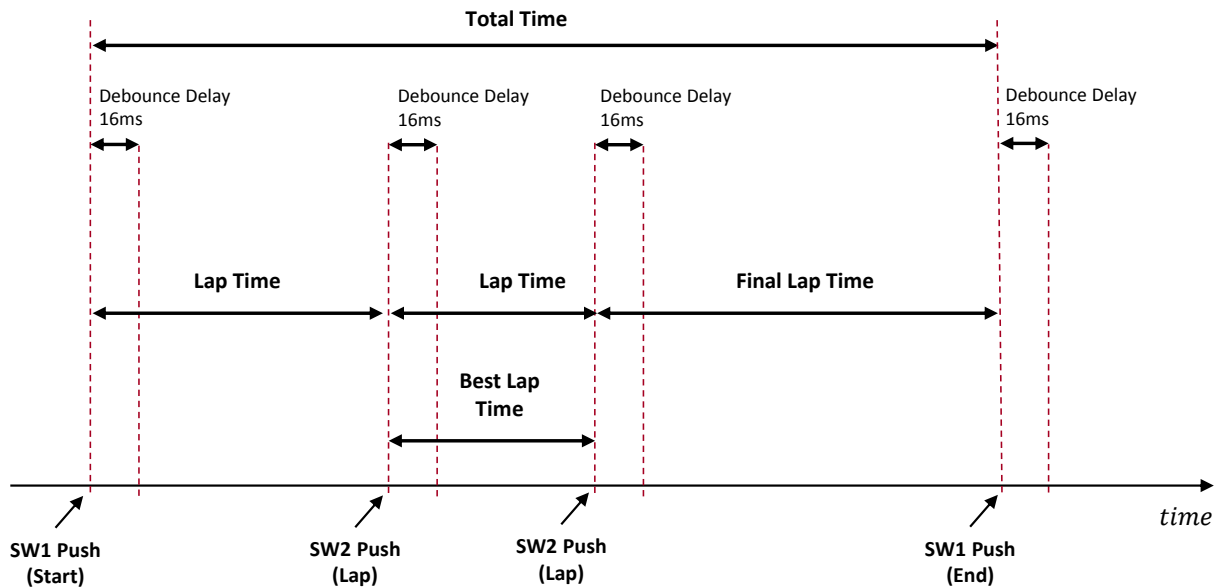

Figure 1: Stopwatch Timing Diagram.
**1. [Pass/Fail points]:** In this task, we are going to design a Stopwatch (1ms resolution) for measuring the total time and the individual lap times of a car racer. A detailed breakdown of the task is given below, whereas the detailed timing diagram of the stopwatch is shown in Figure 1. Notice that for this task, `_delay_ms()/_delay_us()` function calls are not allowed (except for the ones already present in `lcd_lib.c`).
Make sure that you debounce SW1 with a 16ms delay using `Timer0`, yet start/capture `Timer1` at the very moment of the button push (as shown in Figure 1) instead of 16ms later.
- Print on the second row of the LCD the time elapsed (in milliseconds) between this SW2 push and the previous most recent button push event. This shows the lap time of the racer. E.g. if SW2 is pressed for the first time after the start of the race then print the total time elapsed since SW1 push. Otherwise print the time elapsed since last SW2 push (as shown in Figure 1).
Make sure that you debounce SW2 with a 16ms delay using Timer0, yet capture Timer1 at the very moment of the button push (as shown in Figure 1) instead of 16ms later.
- Finally when SW1 is pressed again (i.e. at the end of the race), record the final lap time which is the time since the last SW2 push (as shown in Figure 1).